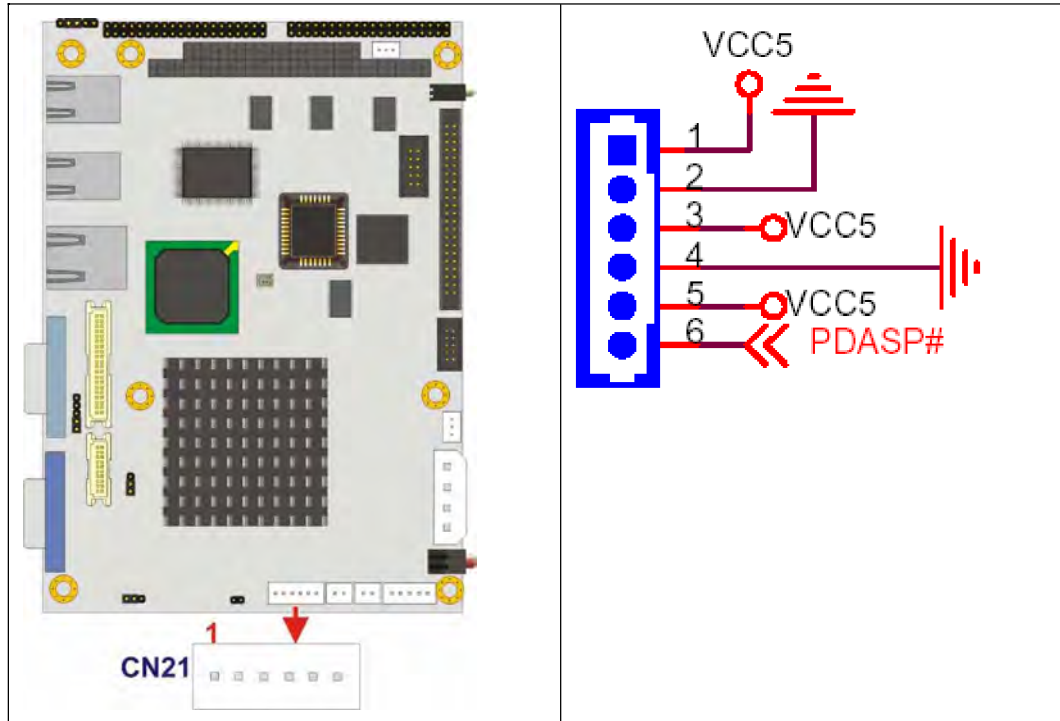

Figure 4-11: LED Connector Locations
- CN Location:** See **Figure 4-11**